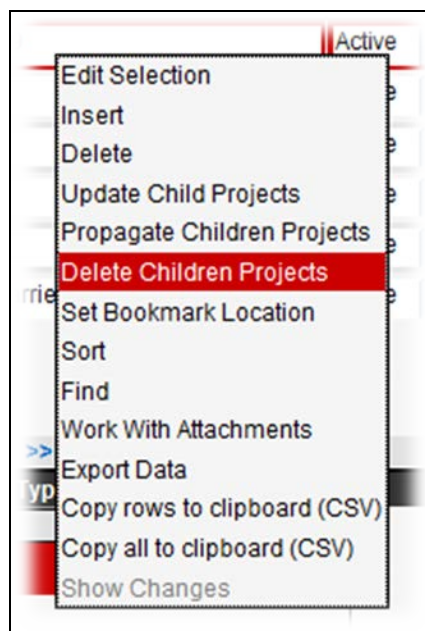

Figure 2-10. Project Delete Propagation Function
- a. Point to the Project, and perform a **Delete Children Projects** function (Figure 2-10).